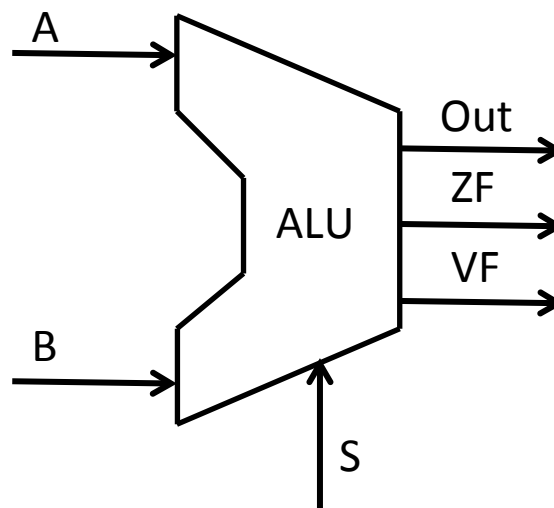

Figure 1: ALU interface
The interface of the circuit you will design is shown in figure 1. The inputs and outputs are described in table 1.
- Ensure the “appearance” of your circuit in LOGISIM matches figure 1.